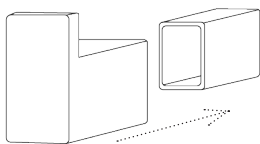

Fig.2
3. Place the PALOS on the sockets supplied and fix them in the pre-drilled holes using the grub screws. Then screw hand-tight with the Allen key. (Fig. 2&3)